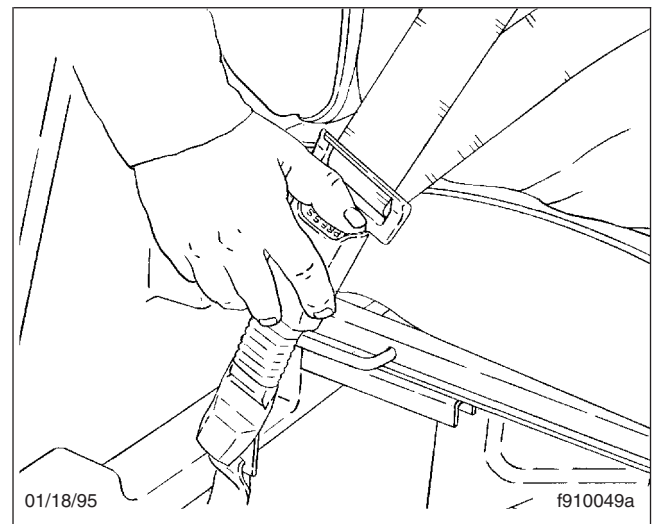

Fig. 7.11, Releasing the Three-Point Seat Belt
4. To unbuckle the three-point seat belt, push the button on the buckle as shown in **Fig. 7.11**. If the Komfort Latch was used, release it by giving the shoulder belt a quick tug. If you lean forward against the shoulder belt, the Komfort Latch will automatically release, and will need to be reset.
6. To unbuckle the three-point seat belt, press the release button on the buckle; see Fig. 7.11.